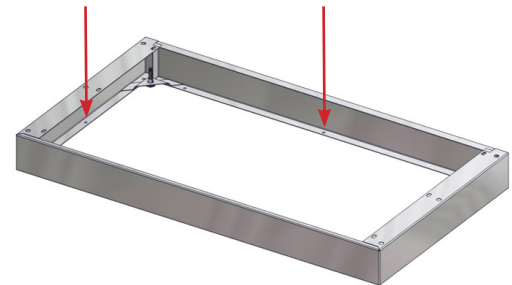

Fig. 8: Secure base to floor
3. It is recommended that the cabinet can be further stabilized by attaching the base to the floor via holes in the bottom of the cabinet base (Hardware not provided) (Fig. 8).